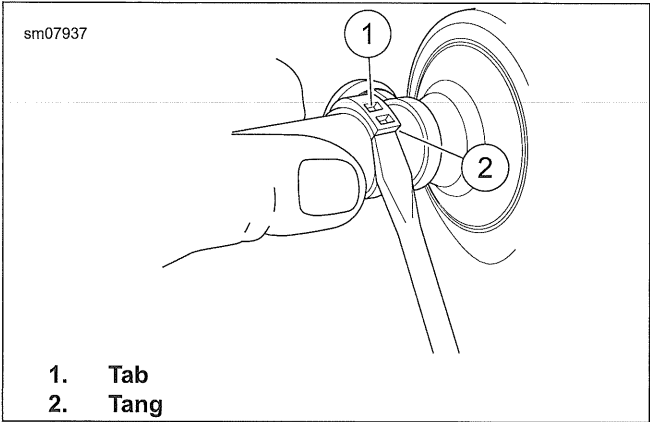

Figure 4-10. Removing Crimp Clamp
- 1. See Figure 4-10. Push the tip of a small screwdriver under end of tang (2).